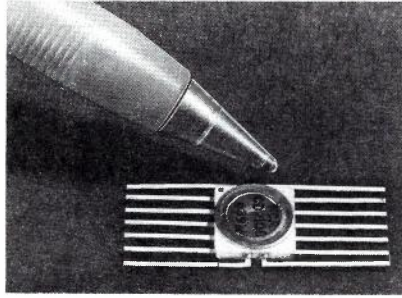

FIG. 43. TYPICAL FLATPACK PACKAGE.
- **FLATPACK.** Fig. 43 shows a typical flatpack package. These are normally made with 10 or 14 leads, although packages with more leads are not uncommon.